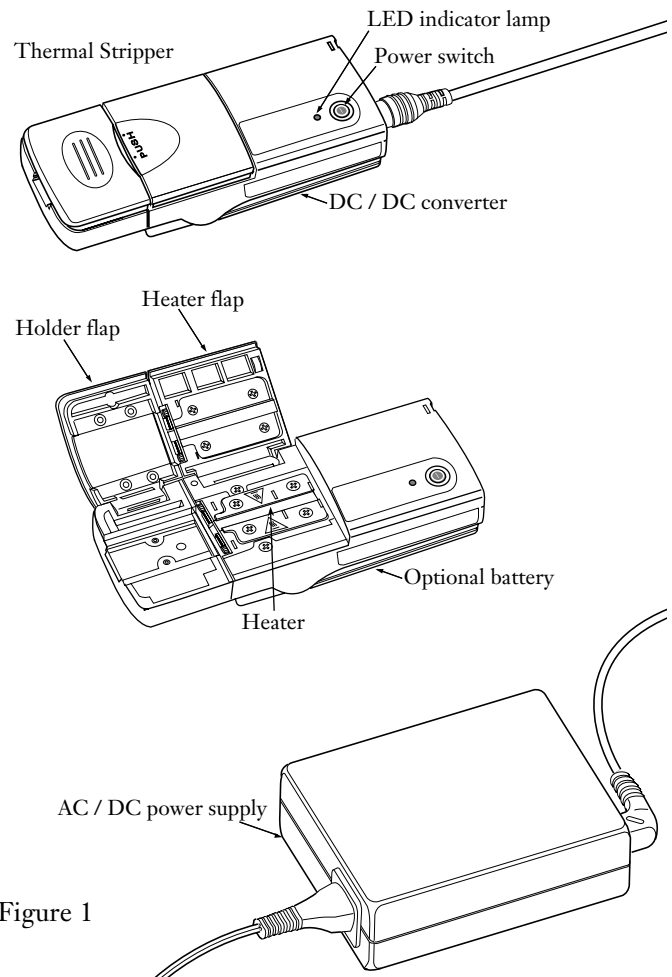

Figure 1
3.1 The stripper may be powered by either the 7.4 VDC battery provided (p/n 2814075-01), an external 12 VDC source such as a fusion splicers's DC output jack, or by the AC / DC power supply which is also supplied with the stripper (Figure 1).